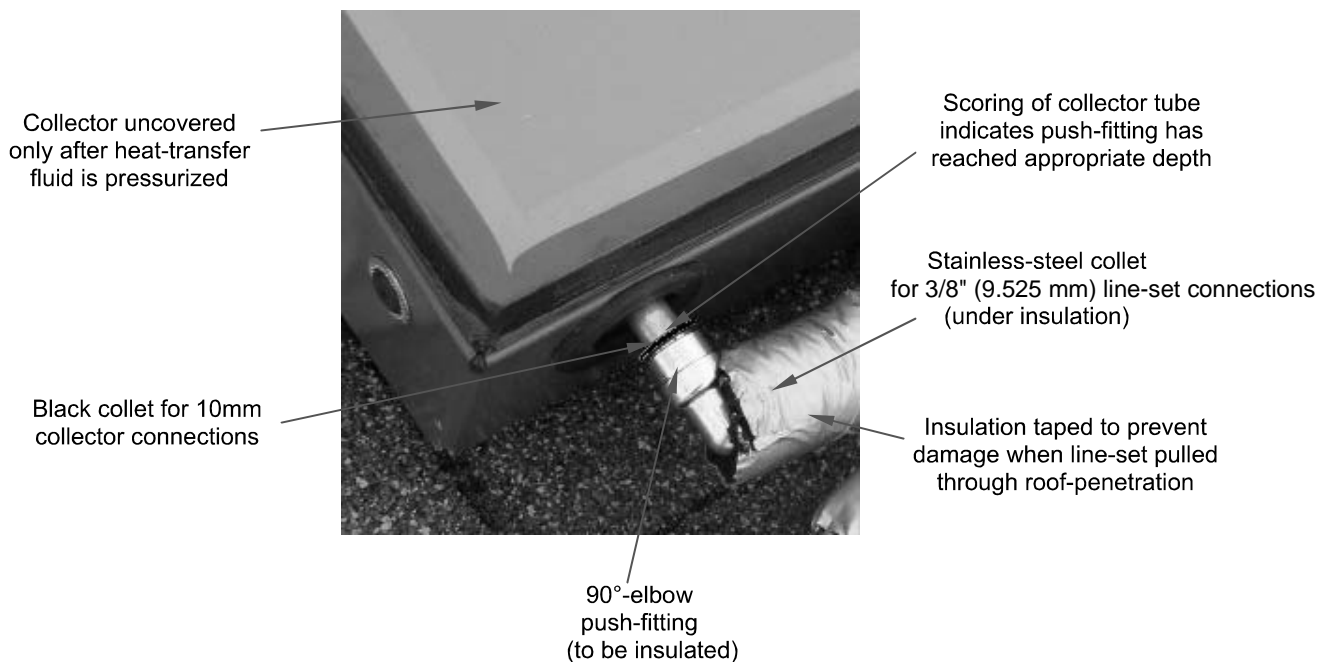

Fig. 6.4.2 – 90°-elbow push-fittings connect line-set to collectors (to be insulated after pressurizing heat-transfer fluid).
7. Carefully bend line-set tubes down between collectors such that 90°-elbow push-fittings will fit onto collector tubes (Fig.6.4.2). A proper tube-bender should be used for tight bends. If line-set needs to be trimmed, push-fittings can be removed by pressing collet towards fitting while pulling fitting from tube. A 7/16" open-ended wrench is good for depressing collet.